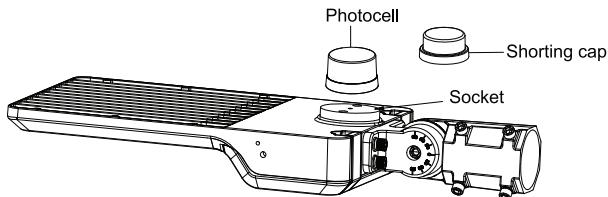

FIG. 10
1. For models with either a 3-pin or 7-pin NEMA twist-lock receptacle installed, either a shorting cap or sensor (such as a photocell) needs to be installed on the receptacle (see **Fig. 10**).